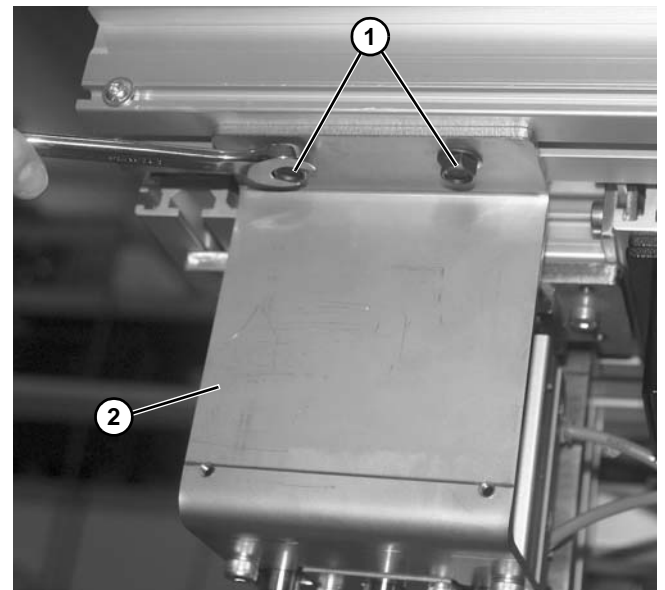

Figure 108
6. Remove two screws (Figure 108, item 1) securing bracket (Figure 108, item 2) onto conveyor frame spring nuts.